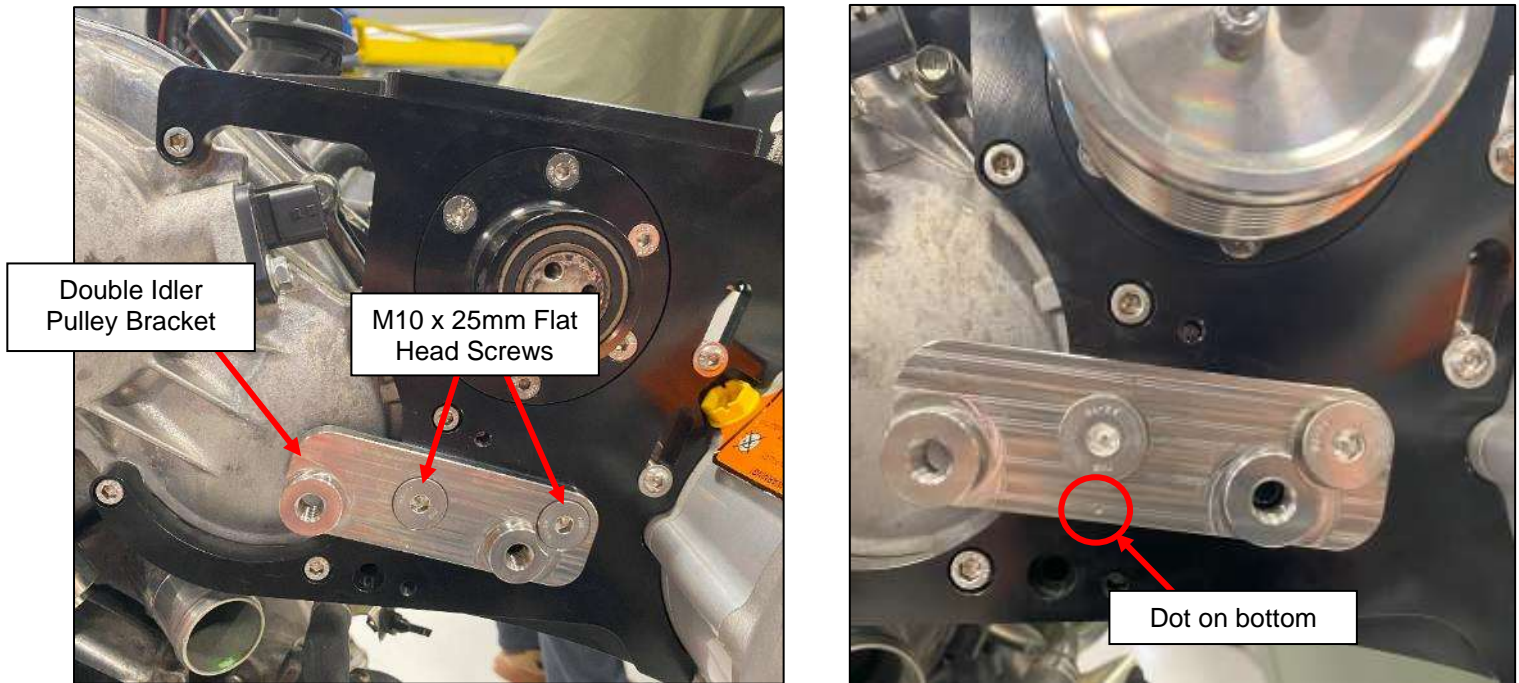

Figure 22
10. Locate the Double Idler Pulley Bracket (#38), and (2) two M10 x 25mm Flat Head Screws (#40). Depending on the main Supercharger Pulley you selected, the Double Idler Pulley Bracket may be different. If you selected the 80mm Supercharger Pulley, the Double Idler Pulley Bracket will have (2) two dots machined into the face. For the 90mm and larger Supercharger Pulleys, the Double Idler Pulley Bracket will have (1) one dot machined into the face.
11. Install the Double Idler Pulley Bracket onto the main bracket using the (2) two M10 x 25mm flat head screws. The image below shows the bracket on an engine on a stand to better show the parts. Make sure that the dot(s) machined into the Double Idler Pulley Bracket are on the bottom, as shown below. Torque screws to **34 ft-lbs.** *Figure 22.*